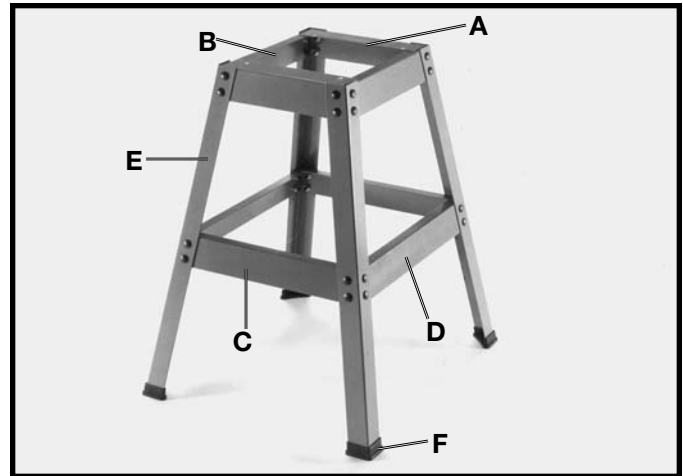

Fig. 4
1. Assemble the stand, as shown in Fig. 4, using the 32 M8x20mm Carriage head screws, 3/8" flat washers and M8 hex nuts supplied. The two 10-3/4 long upper braces (A); 13-9/16 long upper braces (B); 15-3/4 long lower braces (C); and 18-5/16 long lower braces (D) should be fastened to the four legs (E). Insert the carriage bolts through the legs and braces, place flat washer on carriage bolt and secure with nut. **IMPORTANT: The top lips of the two upper braces (A) should be on top of the top lips of upper braces (B).**
2. Assemble the four feet (F) Fig. 4, to bottom of each leg (E), as shown.